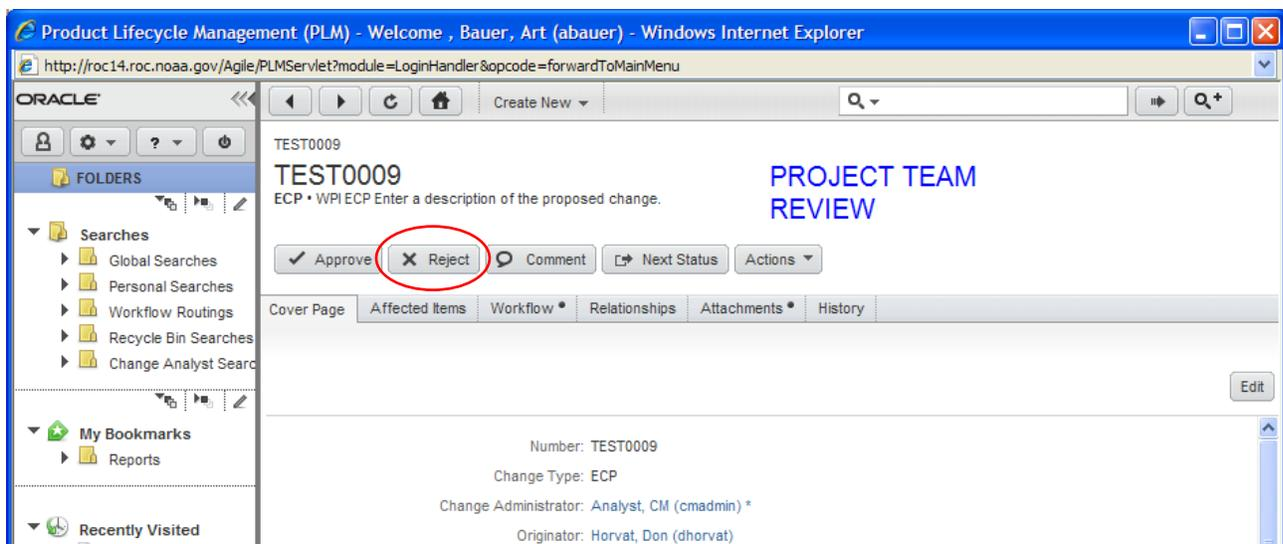

Figure 27: ECP to be reviewed and the **Reject** button location.
1. If a team member does not agree the ECP is ready for submission, he may reject the ECP. To do this, click the **Reject** button  on the Agile ECP form (Figure 27).